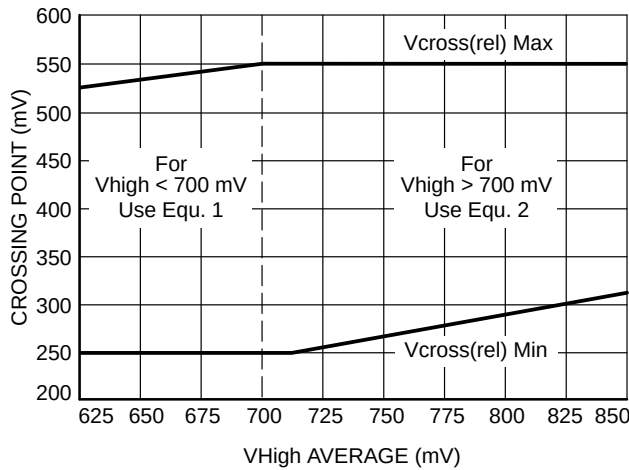

Figure 7. Vcross Range Clarification
28. Vcross(rel) Min and Max are derived using the following, Vcross(rel) Min = $0.250 + 0.5 (V_{\text{avg}} - 0.700)$, Vcross(rel) Max = $0.550 - 0.5 (0.700 - V_{\text{avg}})$, (see Figure 7).